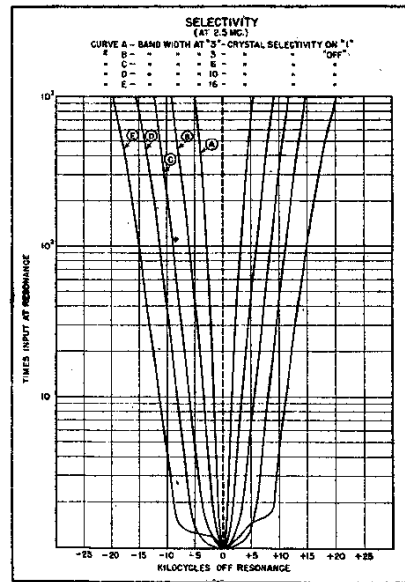

Fig. 8—Selectivity curves.
b. *Variable Selectivity:* Curves A and B, Fig. 8, show Receiver selectivity curves which indicate certain effects of the Crystal Filter. When the CRYSTAL SELECTIVITY switch is set at OFF, the quartz crystal is short-circuited and signal voltages present in the secondary of the 1st detector plate coil (L26) are impressed directly on the control grid of the first IF amplifier tube (V5). At any other setting (1 to 5), the quartz crystal is in use and acts as an extremely high "Q," high impedance, series tuned circuit interposed between the secondary of plate coil L26 and the 1st IF grid circuit (L27, C48), which constitutes the load into which the crystal